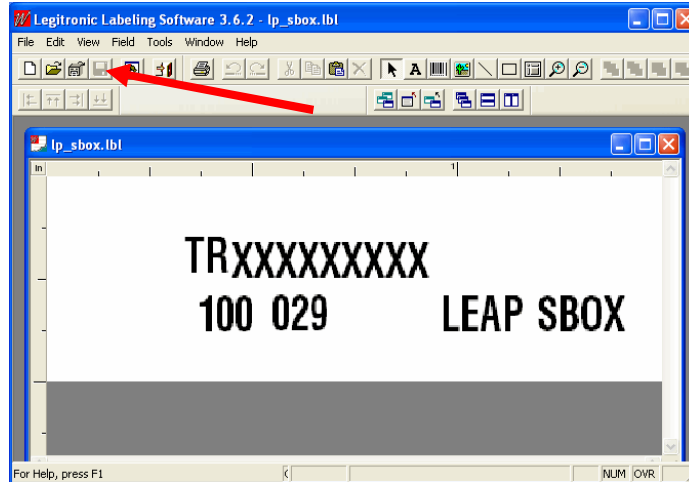

Figure 4-16
4.3.8. Click the Save Icon when the label opens. (Figure 4-16)